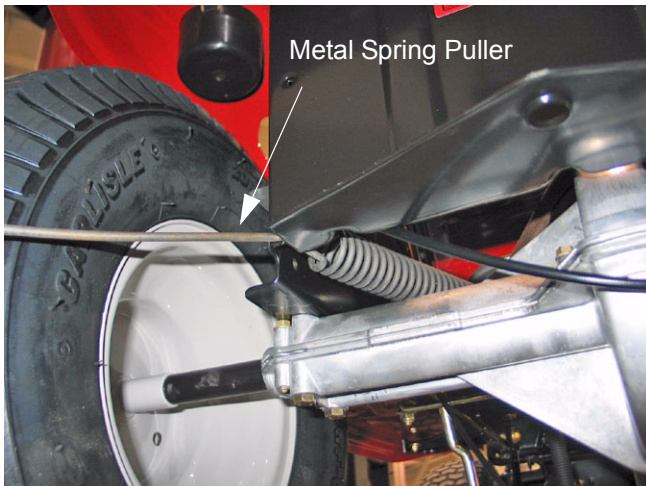

Figure 45
- 11.5. Using a spring puller or length of starter cord, remove the large spring attached between the variable speed idler arm and the rear of the tractor frame. See Figure 45.